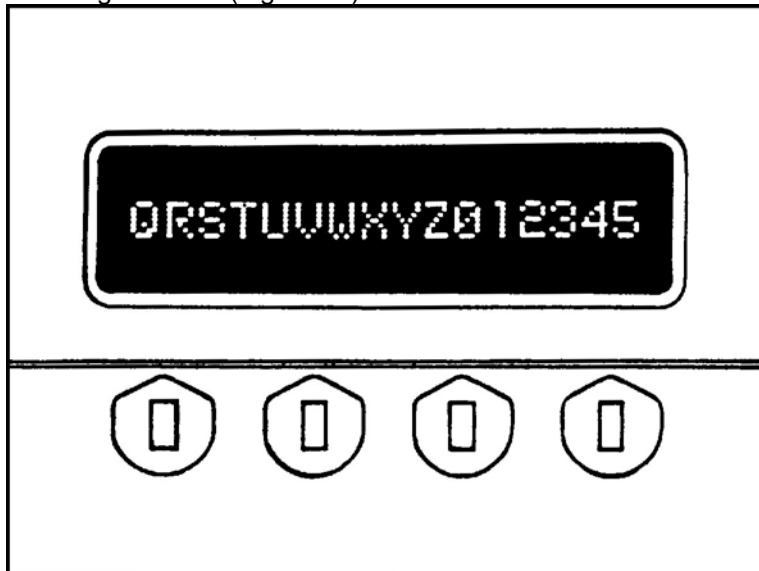

Figure 14. Second character display.
- e. Press the SEQ switch again. The screen now shows "Q" through "5." Once again, check all characters for unlighted dots (Figure 14).